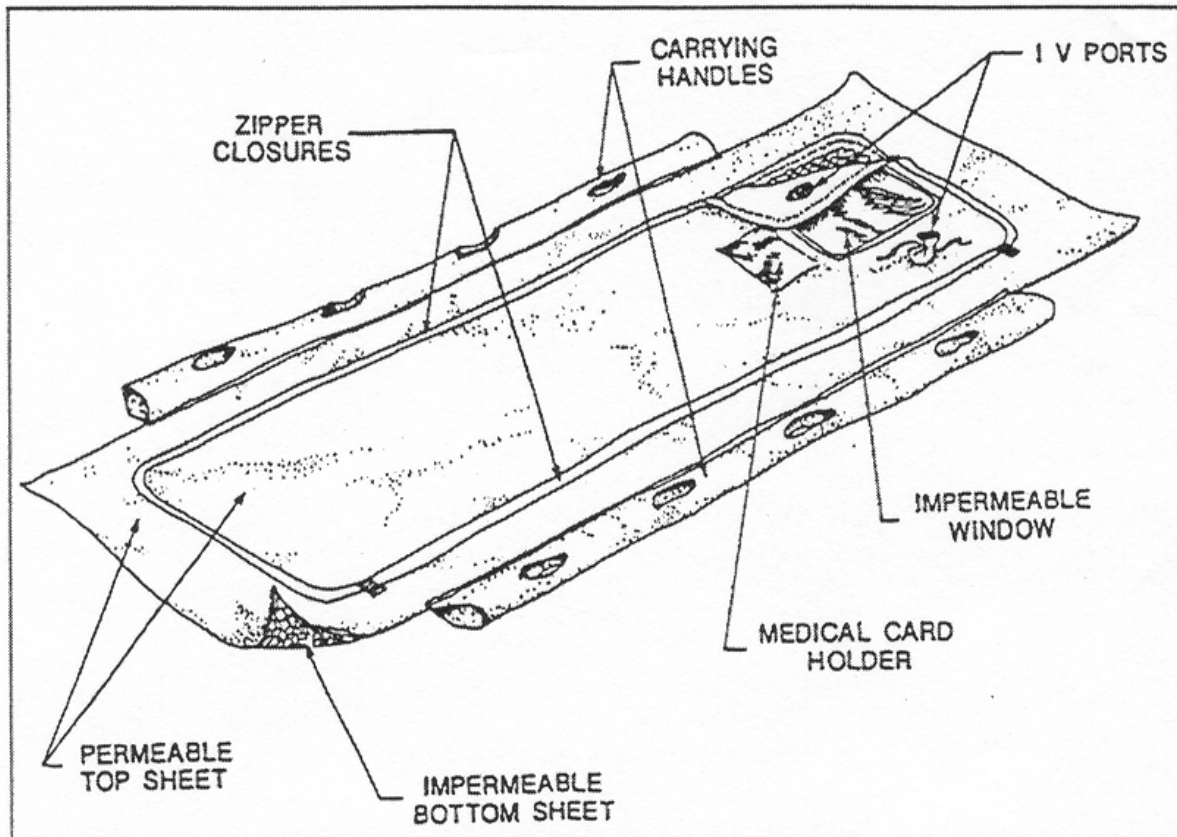

Figure 2-1. Protective patient wrap.
e. If the clean treatment facility (collective protective shelter or other clean treatment area) is not collocated with the decontamination area, it may be necessary to place the casualties in a protective patient wrap (PPW) at the shuffle pit. This will provide protection against chemical agents while being transported to the clean treatment facility. If PPWs (see Figure 2-1) are not available, blankets and plastic wraps may be used to protect the casualty.